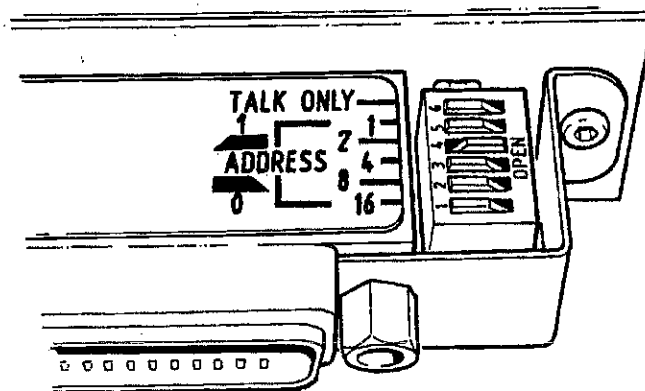

Fig 4 2955B GPIB Address Setting
8.1 Set the 2955B GPIB address to '2' (Fig 4). The 2955B is automatically set in the correct default state when powered up.